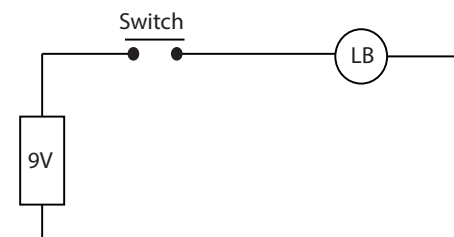

Fig. 3: A light-dimming circuit controlled using PWM signals.
Figure 3 shows another example of a simple light-dimming circuit that could be driven using PWM. A 9V battery powers an incandescent light bulb (LB). If we closed the switch connecting the battery and lamp for 50ms, the bulb would receive 9V during that interval. If we then opened the switch for the next 50ms, the bulb would receive 0V. If we repeat this cycle 10 times a second, the bulb will be lit as though it were connected to a 4.5V battery (50% of 9V). We say that the duty cycle is 50% and the modulating frequency is 10Hz. Most loads, inductive and capacitive alike, require a much higher modulating frequency than 10Hz. Imagine that our lamp was switched on for five seconds, then off for five seconds, then on again. The duty cycle would still be 50%, but the bulb would appear brightly lit for the first five seconds and off for the next. In order for the bulb to see a voltage of 4.5 volts, the cycle period must be short relative to the load's response time to a change in the switch state. To achieve the desired effect of a dimmer (but always lit) lamp, it is necessary to increase the modulating frequency. The same is true in other applications of PWM. Common modulating frequencies range from 1kHz to 200kHz.